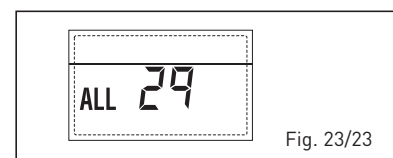

Fig. 23/23
- HEATING RETURN PROBE ANOMALY "ALL 30" (fig. 23/24)